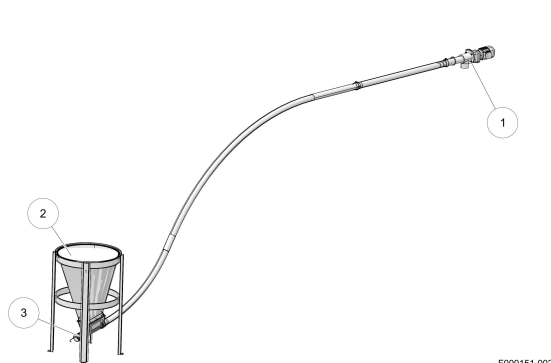
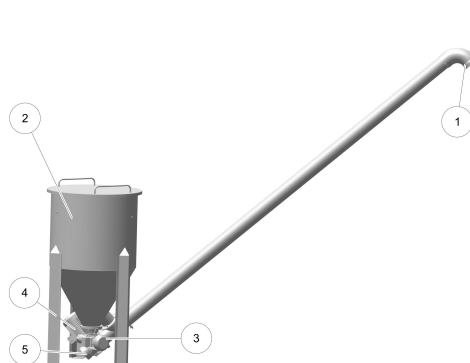

Figure 48. Conventional dispenser
Figure 49. Dispenser with stir motor
During operation check if the light of the sensor (3) (see figure 48 on page 5-20) or (5) (see figure 49 on page 5-20) blinks with every pulse, if it is off the sensor is broken. Check if the set weight is dispensed, if not, calibrate the additive dispenser (frequency pulse) (see Calibrate the Additives Dispenser (frequency pulse) on page 6-27).